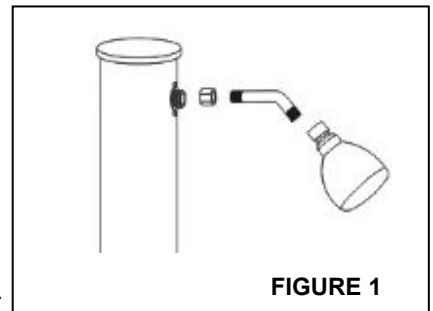

FIGURE 1
2. Carefully thread the coupler onto the 'Showerhead Fitting' and tighten until snug. **DO NOT OVERTIGHTEN. SEE FIGURE 1.**
3. Select the shorter end of the extension pipe and wrap 3 to 5 times with Teflon tape provided. Then thread shower head onto taped end of pipe until snug. **DO NOT OVERTIGHTEN. SEE FIGURE 1.**
NOTE: In case of leaks at either coupler from step 1 or 2, remove from fitting, wrap threading 3 to 4 more times with Teflon tape and reattach. **SEE FIGURE 1.**